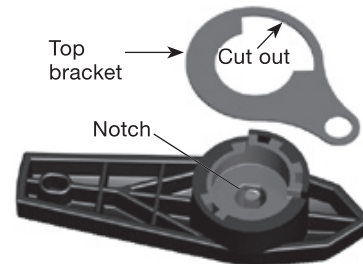

Fig. 4
4. Turn the **handle upside down** and place the **top bracket** on the base of the handle aligning the **cut out** in the bracket with the **notch** on the handle. Fig. 4